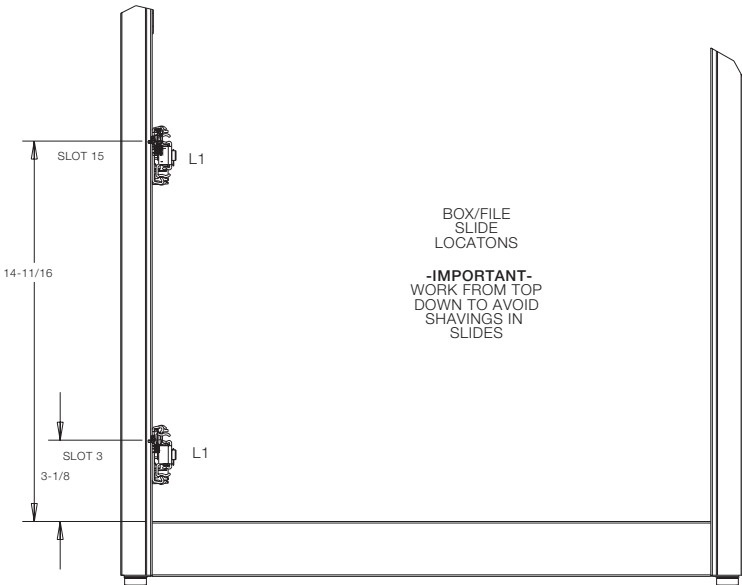

FIG. 5
Using drill template, drill (2) 1/8" holes for each slide. (FIG. 5)
Place LH slides with interlock fingers and RH slides in slots 15 and 3. (FIG. 5)